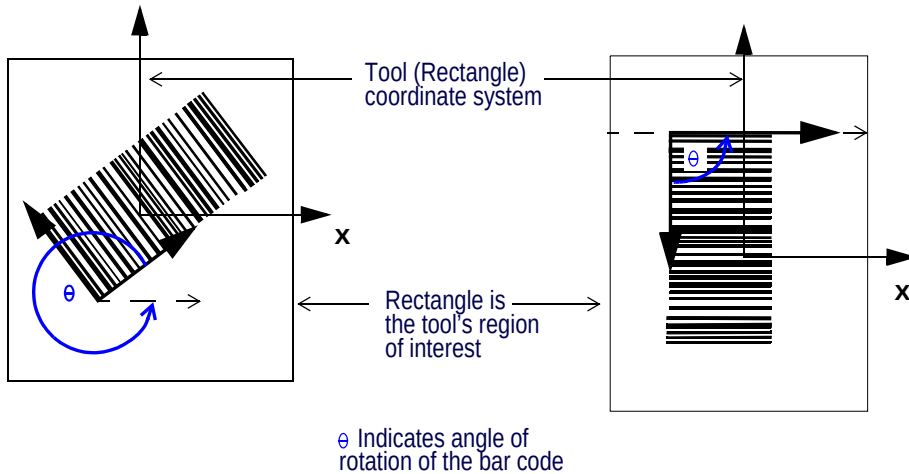

Figure 424 Bar Code Angle of Orientation
- **Angle:** The angle of orientation of a bar code is the counterclockwise angle between the bar code's X-axis and the X-axis of the Rectangle region of interest. See examples in Figure 424.